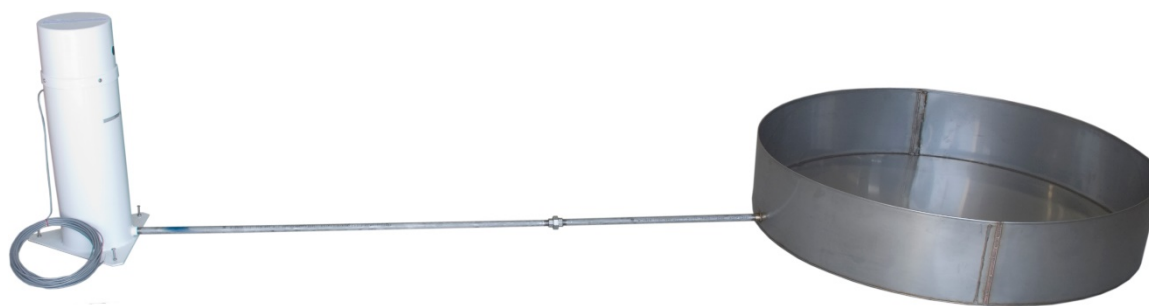

FIGURE 6-2. 255-100 Attached to the 255-200 by Using the 255-100P/F
9. Attach the evaporation gauge to the evaporation pan (FIGURE 6-2).